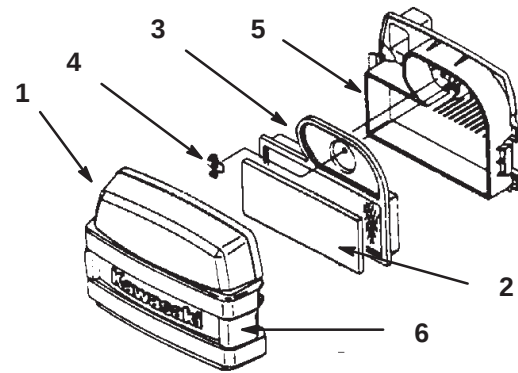

Figure 34
2. Clean around the air cleaner to prevent dirt from getting into the engine and causing damage. Unlatch two side latches and remove the air cleaner cover (Fig. 34).
3. Carefully remove the foam element from the paper element (Fig. 34).
4. Unscrew the wing nut and remove the paper element (Fig. 34).
- Carefully slide the foam element into the paper air cleaner element (Fig. 34).
- Place the air cleaner assembly onto the air cleaner base and install wing nut (Fig. 34).
- Install the air cleaner cover and latch (Fig. 34).